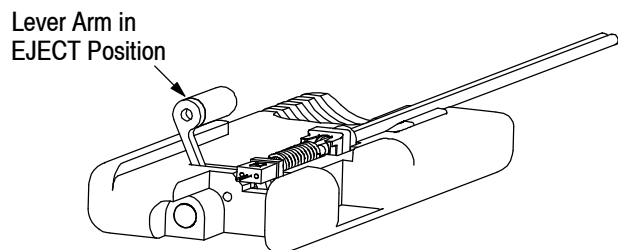

Figure 24
10. Rotate the cure fixture lever arm to the EJECT position and carefully remove the assembly. See Figure 24.